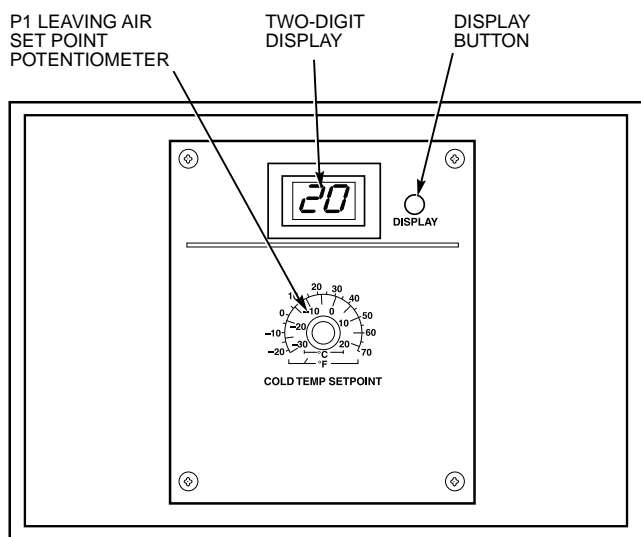

Fig. 30 — Display/Set Point Board
- P1 (Leaving-Air Set Point) — The control uses an allowable range of 45 to 70 F. However, the potentiometer has a valid range of –22 to 70 F. If the set point is between –22 and 45 F, control will use a value of 45 F and alarm light will not be energized. If set point is outside valid range of the potentiometer (less than –22 F and greater than 70 F), alarm light will be energized, an error code of **[82]** will appear on the display when display button is pushed, and a default value of 70 will be used as the set point. This potentiometer is located on display board (see Fig. 30).
The quick test program utilizes the 2-digit LED (light-emitting diode) display (see Fig. 30) on the set point board to show status of all input and output signals to microprocessor. Display action and quick test procedures are described below.
For each step of the 33-step program, display button must be pressed twice. On first press, step number is displayed; second press initiates required action and appropriate code is displayed as shown in Fig. 30.